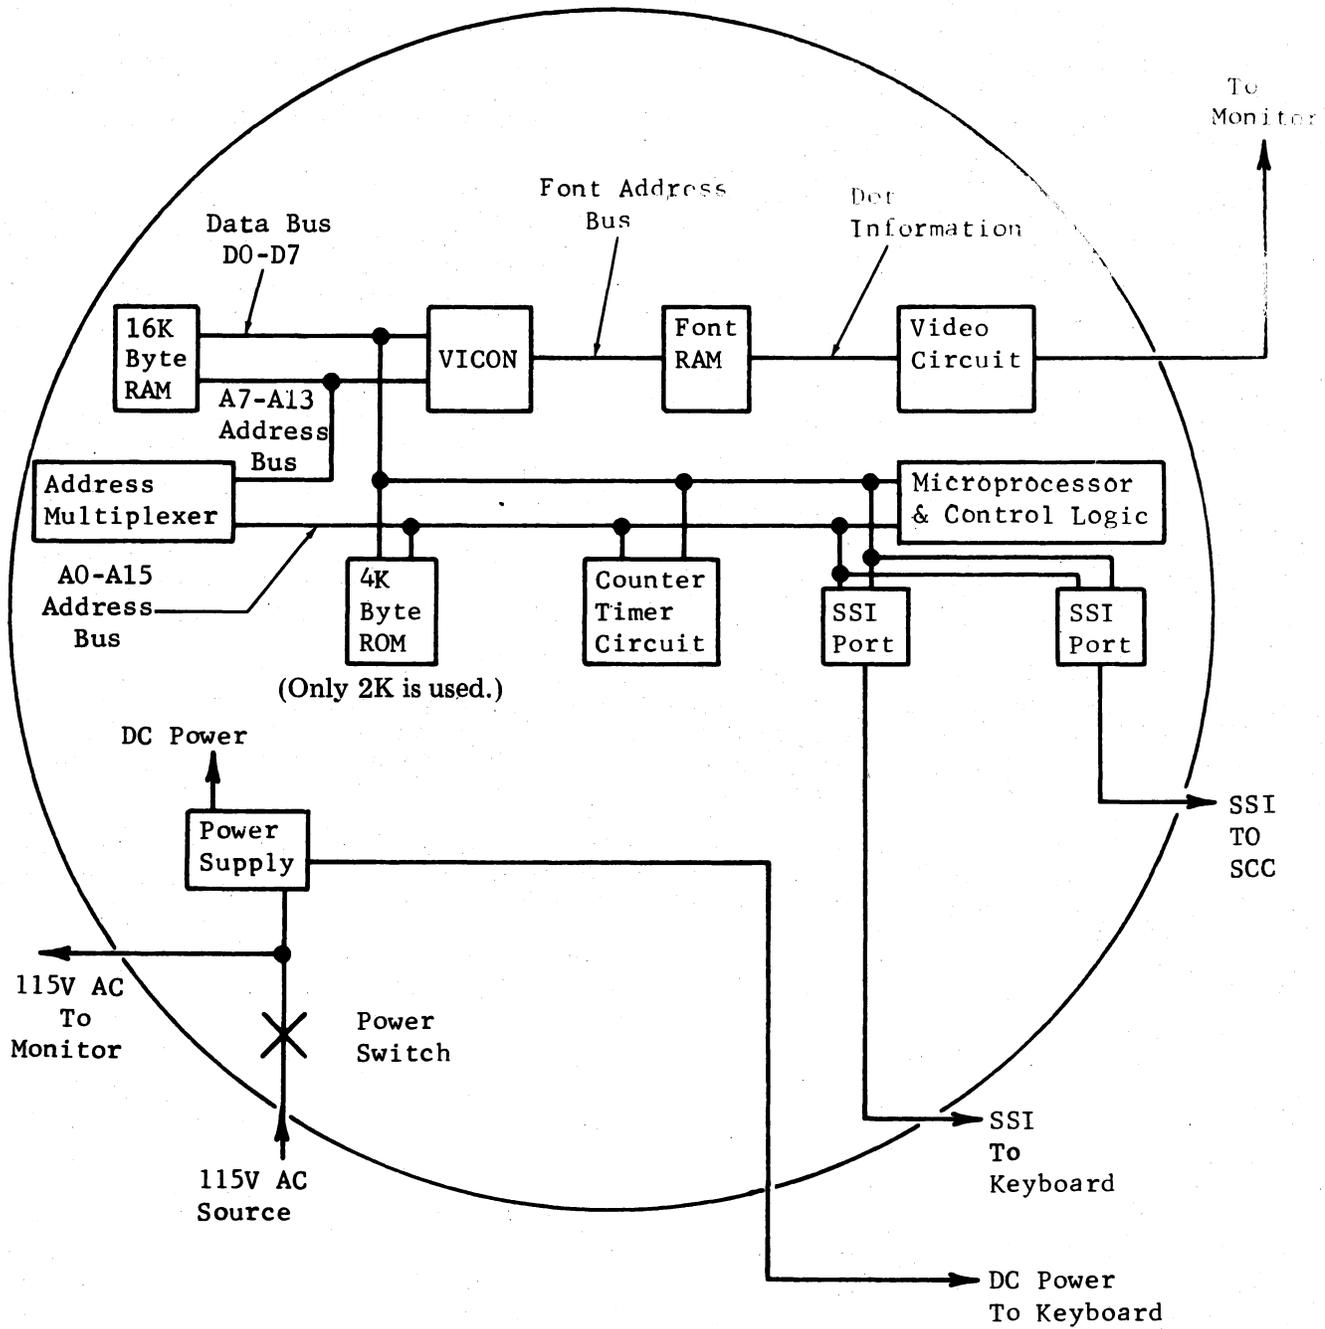

Fig. 7—Major Circuitry of Display Base For Clustered 4540
3.09 The display base consists of an 8 bit microprocessor based controller and a power supply. The display base supports the 40MN101/AA (or 40MN201/AA) monitor and cable connections. See Fig. 7.